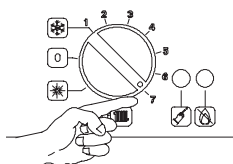

Figure 15.7
- Remove the protection cap I (Fig. 15.7) from the mechanical pressure adjustment components levering with a flat screwdriver in the slots H.
- Turn the boiler ON positioning the function selector B in the position shown in figure 15.7 and ensure that the room thermostat is set to “heat demand”.
- Watch the gauge and check to see if the ignition pressure registered corresponds to the values given in the Technical Data. Turn off the boiler and reignite it by turning the function selector B to the 0 position and then back to that indicated in figure 15.7.